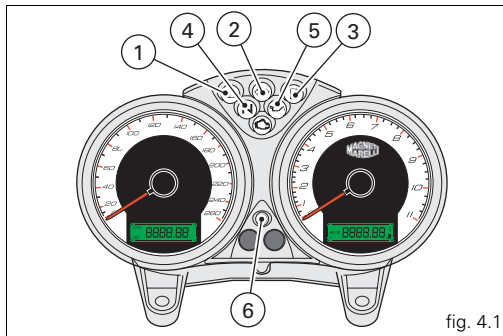

fig. 4.1
Instrument panel (fig. 4.1)
In the event of faults in the immobilizer system, the following procedure makes it possible to disable the "engine lock" function, which is indicated by the yellow-amber EOBD warning light (7, fig. 4.1).
1) Turn the key to ON, fully open the throttle and hold it open. The EOBD warning light (7, fig. 4.1) goes off after the pre-set time of 8 seconds.
4) Count a number of flashes of the EOBD (7, fig. 4.1) light equal to the first number of the secret code.
1) if the code is recognized, the warning light (6, fig. 4.1) on the instrument panel flashes briefly; the protection system has recognized the code and disables the engine lock.